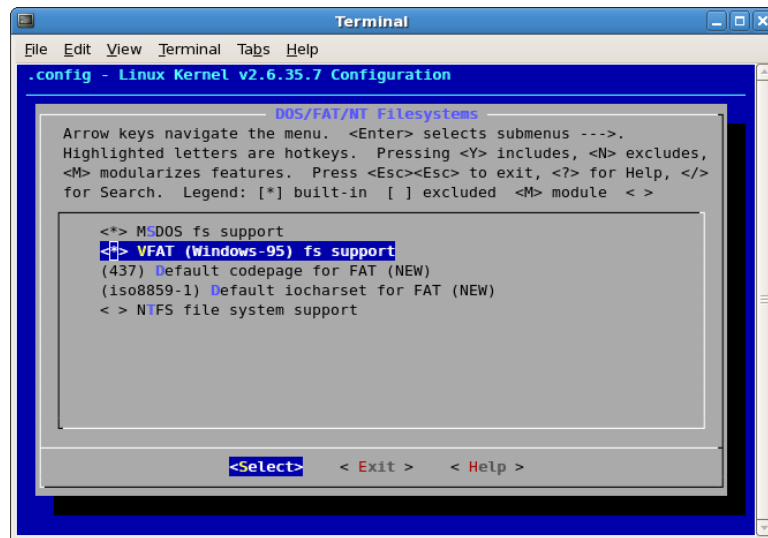

Figure 2: Enable MSDOS and VFAT file system support
- (e) Exit out of the `'General setup'` screen. From the main menu of `'menuconfig'`, select `'File systems'`. Scroll down towards the bottom of the screen and select `'DOS/FAT/NT Filesystems'`. Enable both `'MSDOS fs support'` and `'VFAT (Windows-95) fs support'` as seen in Figure 2. Note that to properly select an option in `'menuconfig'` there must be an asterisk next to the option. When an option is highlighted, you can hit the space bar twice or just press `'y'` to select an option.